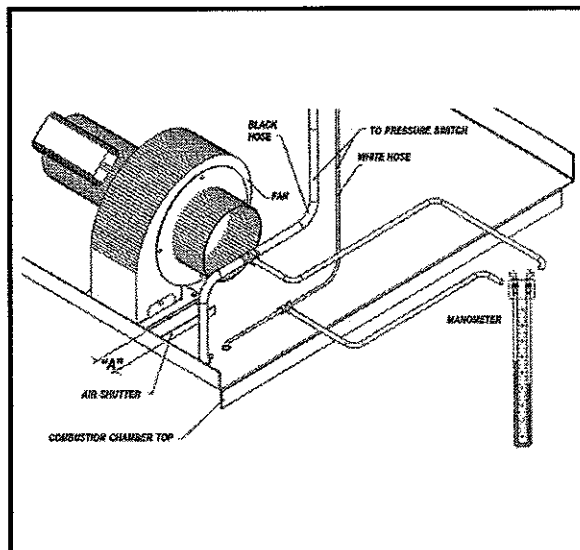

FIG. 32 Combustion Air Shutter Adjustment
1. Loosen two combustion air blower mounting nuts, to allow the air shutter to slide. See Figure 32.